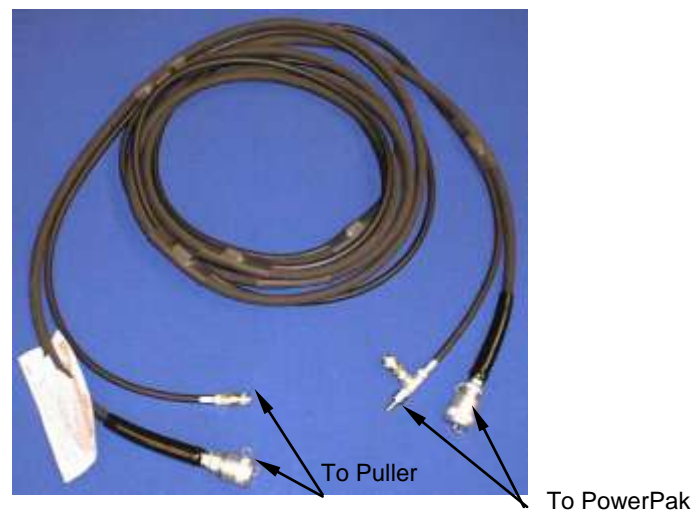

Figure 3.1-1
8. Connect the male air quick disconnect attached to the T-fitting into the female coupler of the FTI PowerPak. Figure 3.1-1 shows the hoses and connections.